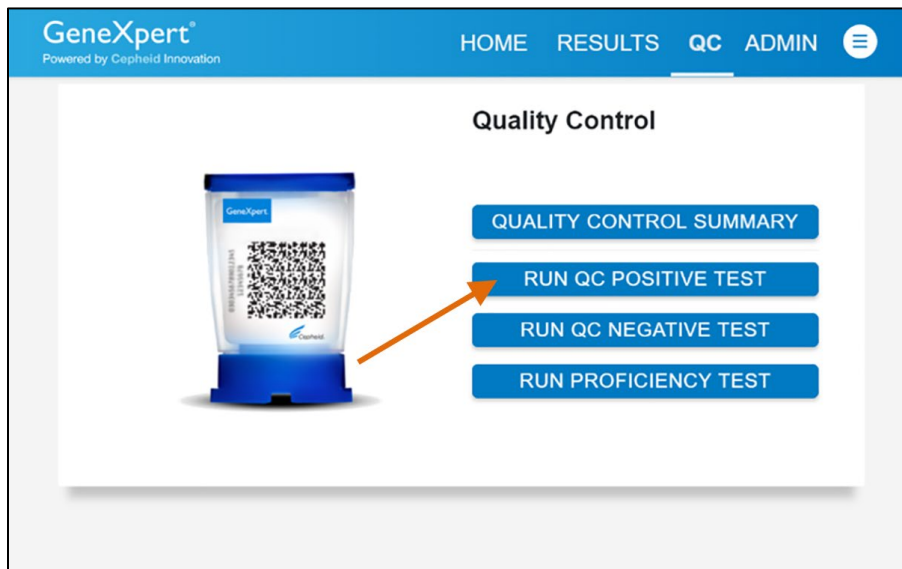

Figure 24. Quality Control Screen
2. The Quality Control screen appears. Touch **RUN QC POSITIVE Test**, **RUN QC NEGATIVE TEST**, or **RUN PROFICIENCY TEST** option (Figure 24).